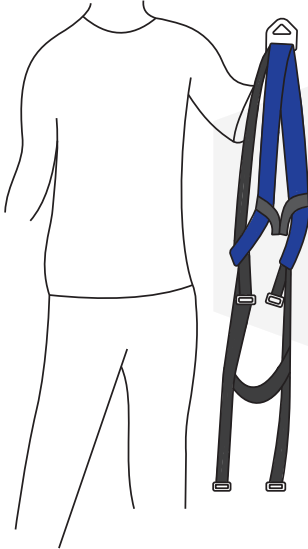

Fig 2
2. Fit over the shoulders, allowing the harness to hang in position, again checking for twists. (Fig 2)